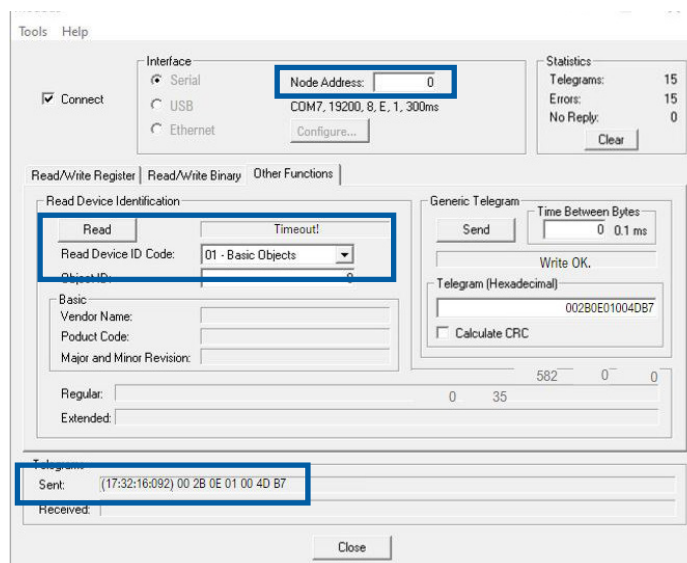

Figure 18 - Modbus communication fail
- Step 3: Obtain the current Modbus address, please refer Figure 18. Input the broadcast address 0, Select “Other function”, read device ID (01-Basic Objects) or directly send “00 2B 0E 01 00 4D B7”. When the ECM Motor received the request, the LED1 on the PCBA will flash address count.